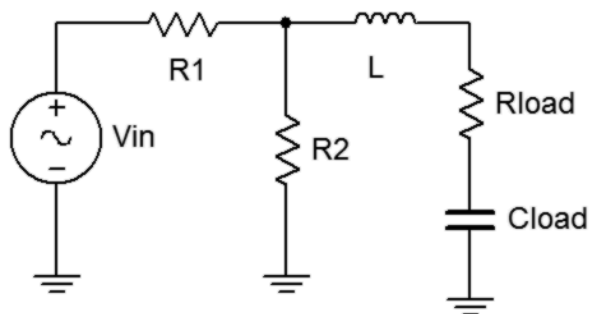

Figure 11.3
6. To verify that Thevenin's theorem also works with an inductive source and a complex load, repeat steps 1 through 5 in like manner but using figure 11.3 with $R_1=1.5\ \text{k}\Omega$, $R_2=2.2\ \text{k}\Omega$, $L=10\ \text{mH}$, $R_{\text{load}}=1\ \text{k}\Omega$ with $C_{\text{load}}=100\ \text{nF}$. Set the generator to a 10 kHz sine wave at 2 V p-p. Record results in Tables 11.3 and 11.4.